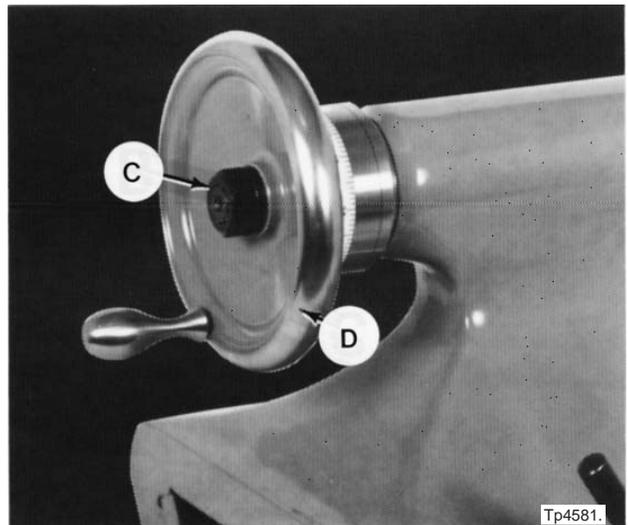
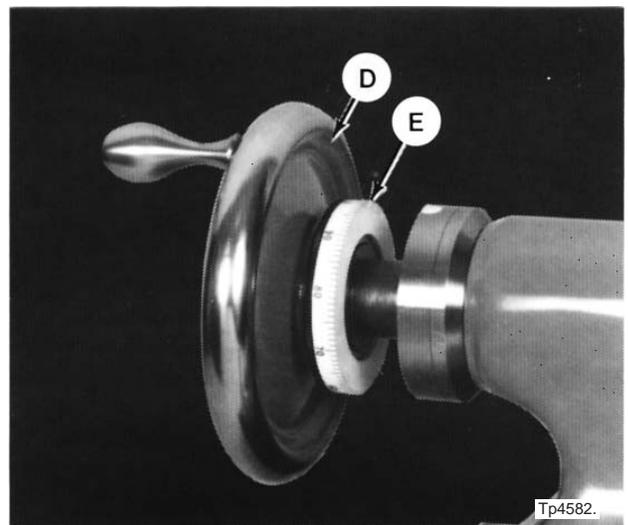
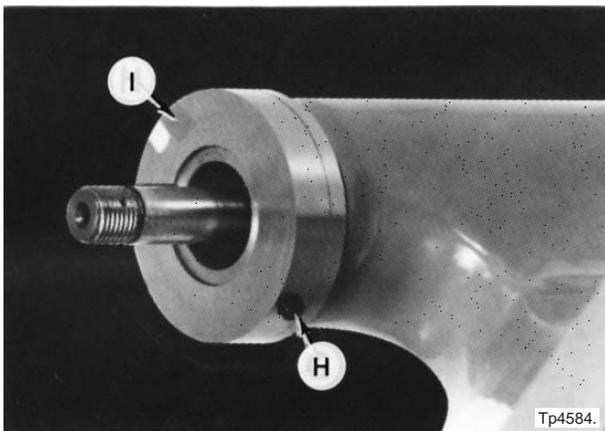

Figure 6.36 - Tailstock Handwheel Locknut
Figure 6.37 - Tailstock Handwheel Removal
Figure 6.39 - Tailstock Zero Ring
- a) Remove nut "C", Figure 6.36, and the washer.
- b) Remove handwheel "D" and dial "E", Figure 6.37, from the tailstock feed screw.
Do not misplace the plug located under screw "H", Figure 6.39 .
- e) Loosen screw "H" and remove zero ring "I", Figure 6.39 .
Be sure the nylon plug is under screw “H”, Figure 6.39 .
- p) Replace zero ring “I”, Figure 6.39, but do not tighten screw “H”.
- r) Replace dial "E" on handwheel "D", Figure 6.37 .
- s) Mount handwheel "D", Figure 6.37, on the feed screw, as shown in Figure 6.36 .
- t) Replace the washer and nut "C", Figure 6.36 .
- u) Set the clearance between dial "E", Figure 6.37, and zero ring "I", Figure 6.39, at .002" [.05 mm] to .004" [.1 mm].
- v) Tighten screw "H", Figure 6.39 .